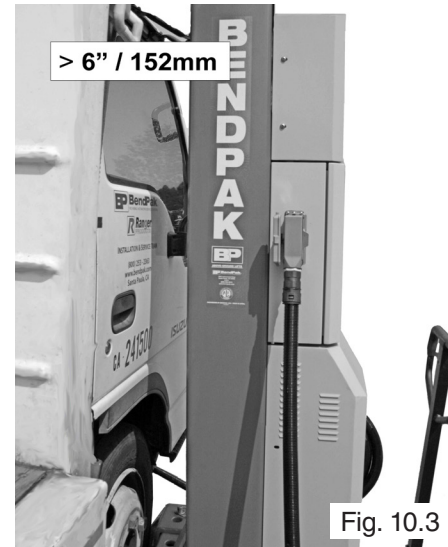

Fig. 10.3
6. Lower the Column and adjust the fork arms by pushing the arms until they touch or are as close to the tire as possible. The lift should be parallel to the vehicle body without touching the body or other components of the vehicle. (See Fig 10.3)